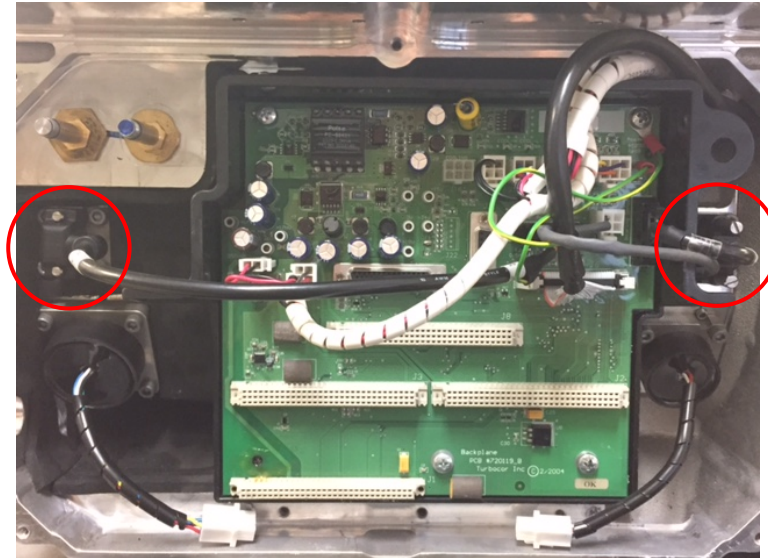

Figure 1 - 9-Pin Feed Through Connector Locations
1. Remove the six (6) screws that secure the Service Side Cover. Lift away cover.
- Remove the bearing sensor cable from the 9-pin feed through (Figure 1).